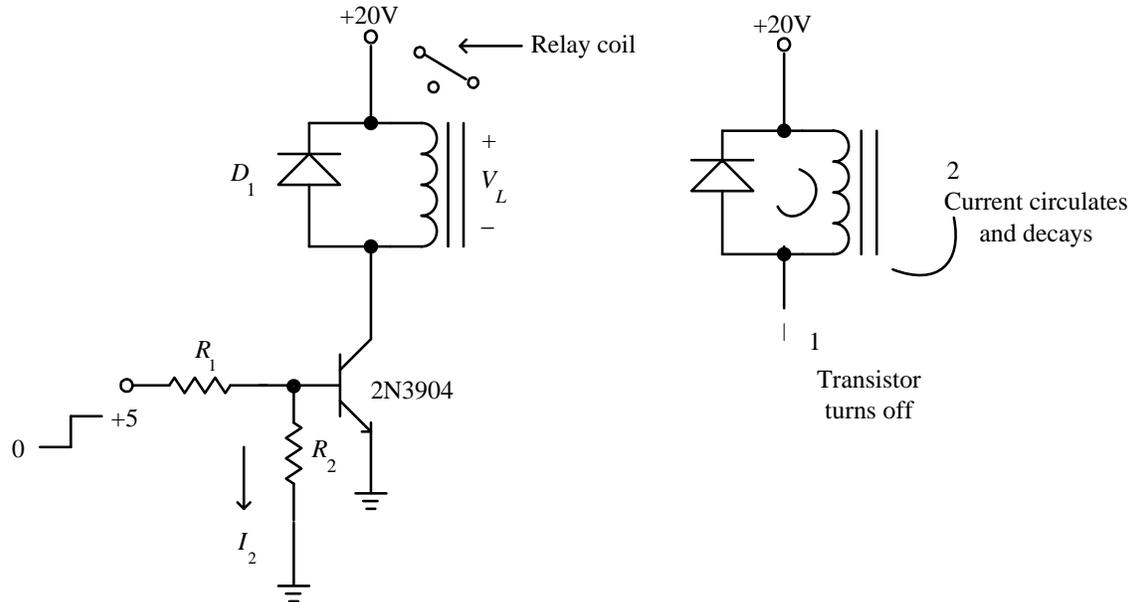
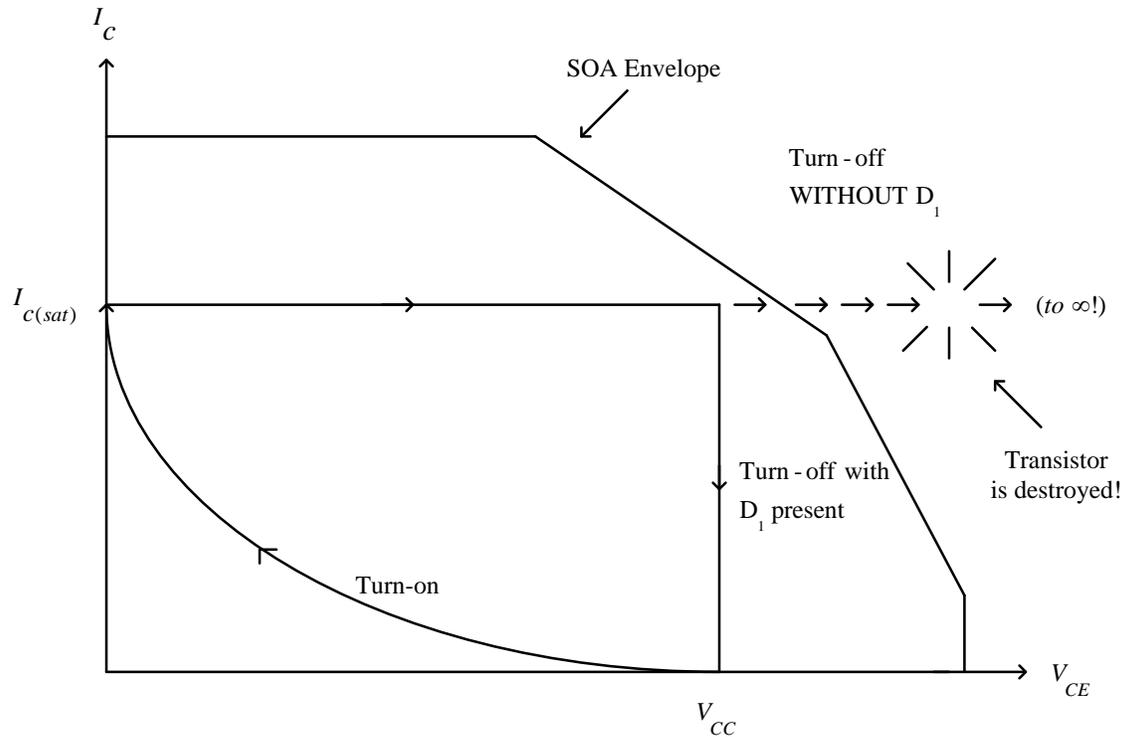

Fig. 3. Using a BJT to control a relay.
Fig. 4. Switch trajectory with and without  $D_1$ .
In Part A of this experiment, we will use a small switching transistor to drive a relay coil. This circuit, shown in Fig. 3, is useful for controlling high-current or high-voltage devices as well as circuits.
An important consideration when driving any inductive load is to provide a current path for the inductor, as the transistor turns off. This is accomplished in Fig. 3 with diode  $D_1$ . When the transistor is turned on, the inductance of the relay coil slows the rise in current. Being reverse-biased, the diode does not conduct. When the transistor turns off, the inductor voltage reverses polarity and becomes a source in order to maintain inductor current flow. If the diode were not present,  $V_L$  would increase to whatever voltage is necessary to maintain the current. This could be hundreds or *thousands* of volts! The transistor would not survive. With a suitable diode in place, the current can continue to circulate until the inductive energy is dissipated. These two cases are shown on the V-I plane in Fig. 4. To guarantee survivability, we must confine operation to the safe operation area (SOA).
1. First, we will design the switching circuit of Fig. 3 to drive a small relay that will be provided for you in the lab. Relay coils sometimes give the nominal voltage and current required for the coil. In other cases (such as ours), the manufacturer provides the nominal coil voltage along with the approximate coil resistance. To ensure that the transistor will always be saturated when ON, perform the following calculations: